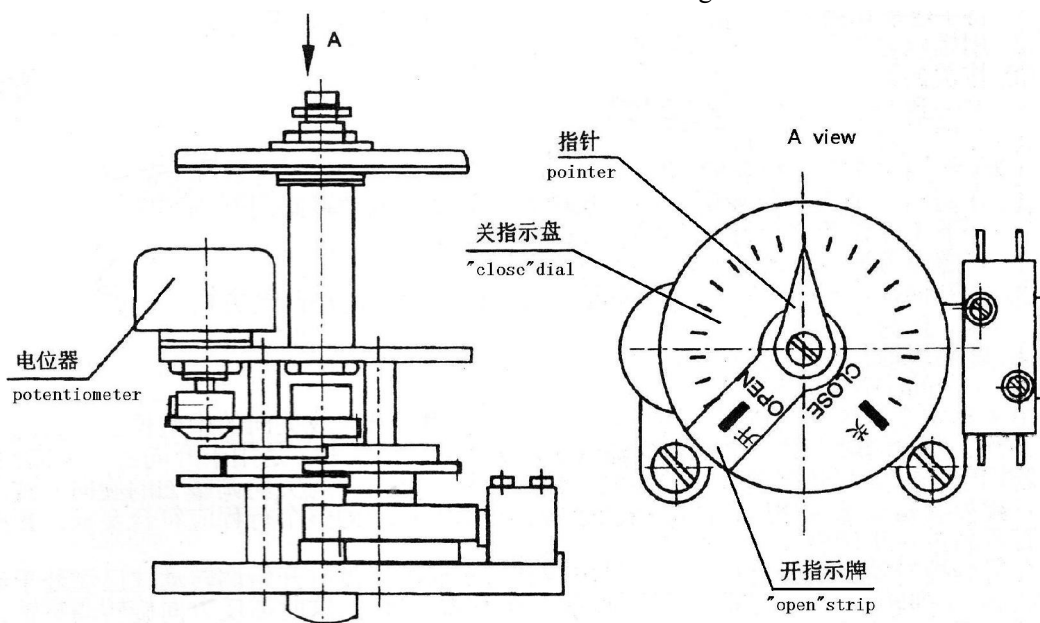
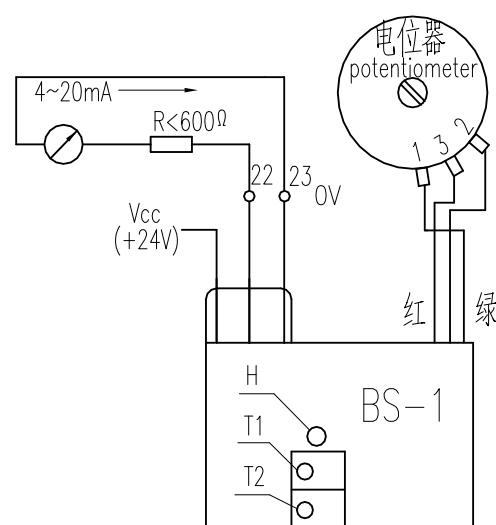

图 18 开度机构 Fig. 18 Valve position indicator
图 19 阀位变送器 Fig. 19 BS-1 Transmitter
3. 开度机构的调整 开度机构结构见图 18，调整方法如下
The structure of Valve Position Indicator refers to Figure 18.
BS-1 阀位变送器其取样电位器选用高精度导电塑料电位器（独立线性度 $<1\%$ ，寿命 10×10^6 次）。安装位置为取代原电位器 RP1（见图 18）。图 19 中 22、23 为接线端子号，也是电流输出端，H 为指示灯，其亮度随输出电流的增大而变亮。调整方法如下：（以输出轴顺时针转动为关阀为例）使阀门处于全关位置，关方向旋转取样电位器转轴，使输出电流从大到小接近 4mA，（导电塑料电位器无限位）调节 T1 微型电位器，直至输出电流精确为 4mA；打开阀门至全开位置，调节 T2，直至输出电流精确为 20mA。如果输出轴逆时针转动为关阀，则取样电位器的调节旋向应相反。
Its installation position is the original sampling potentiometer RP1(refer to Figure 18). 22 and 23 in the fig. are terminal codes and output ends of current. H is indicating lamp. Its brightness increases along with the output current increases. The adjustment is as following (take clockwise rotation of output shaft for valve closing as example): Operate the valve to “full closing” position, turn the axis of potentiometer in valve closing direction till the output current varies from great to small and approaches 4 mA (conductive plastic potentiometer is without range limit), and adjust micro potentiometer T1 till output current is exactly 4 mA; operate the valve to “full open” position, and adjust micro potentiometer T2 till output current is exactly 20 mA. If counterclockwise rotation of output shaft for valve closing, the adjusting direction of sampling potentiometer will be reverse.